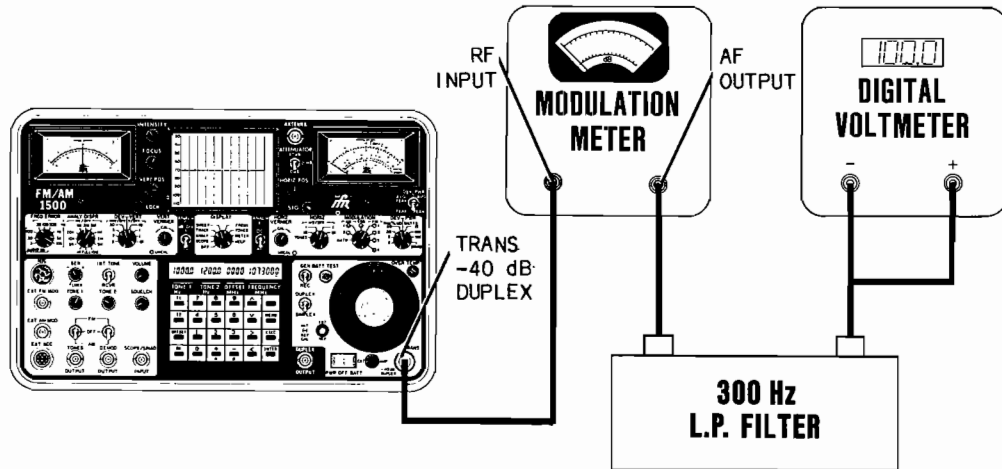

Figure 4-3 Residual FM Test Hookup
12. Using external Spectrum Analyzer, measure the RF output at the DUPLEX OUTPUT Connector (16). Verify level is -10 dBm (2 dB). Disconnect coax to DUPLEX OUTPUT Connector (16).
13. Connect a 50Ω Termination to DUPLEX OUTPUT Connector (16). Using external Spectrum Analyzer, measure RF output level at TRANS/-40 dB DUPLEX Connector (11). Verify output level is -50 dBm (3 dB).
14. Repeat Steps 12 and 13 for a 120.2000 MHz setting on LCD (21).
15. Connect Modulation Meter, 300 Hz Low-pass Filter and Digital Voltmeter to FM/AM-1500 as shown in Figure 4-3. Set Modulation Meter filters to 30 Hz high-pass and 3 KHz low-pass.